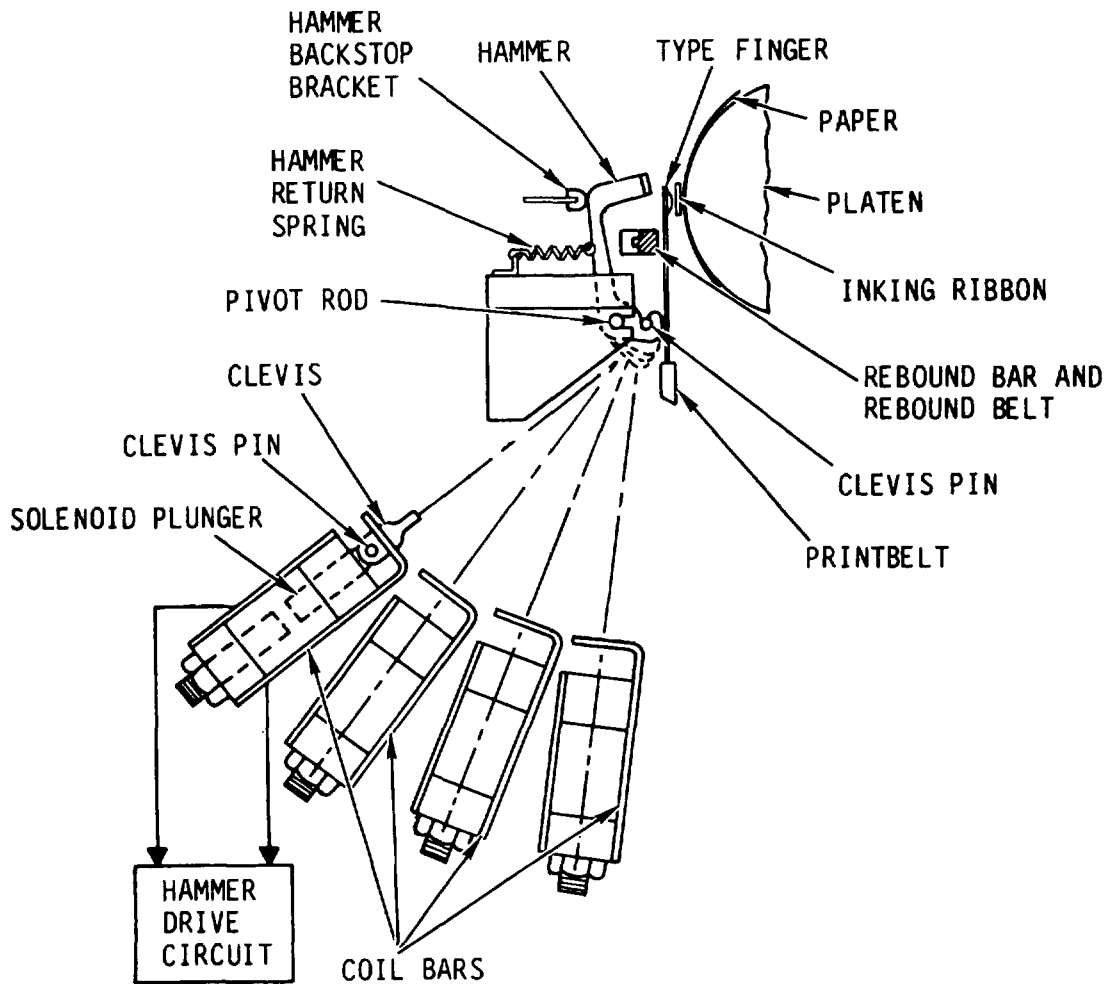

Figure 2-6. Hammer Impact Process
(2) All of the individual hammers (fig. 2-6) are mounted on a common pivot rod. Each hammer is connected by its clevis to a solenoid plunger. The clevis engages a curved slot at the base of the hammer. The other end of the clevis is linked to the solenoid plunger. When the solenoid coil is energized by the hammer drive circuit, the clevis is pulled down by the plunger, causing the hammer to pivot forward about the pivot rod. The face of the hammer travels forward approximately 0.077 inch (2.0 mm) while being pulled by the clevis.